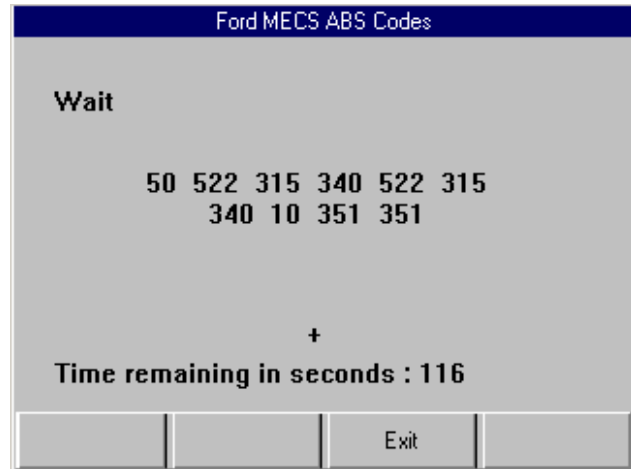

Figure 5.10: Read Codes Test Screen
- 3 One or more information or instruction screens appear. Read the screens and follow all instructions. If necessary, use the **function keys** to answer any questions. Do this until the test screen appears (see Figure 5.10).